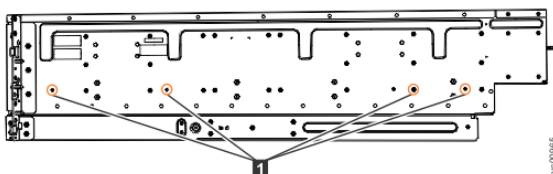

Figure 45. Screw locations to attach the inner rail to the enclosure
4. Use four M4 screws to attach the inner rail to the side of the enclosure. Figure 45 on page 84 shows the screw locations.